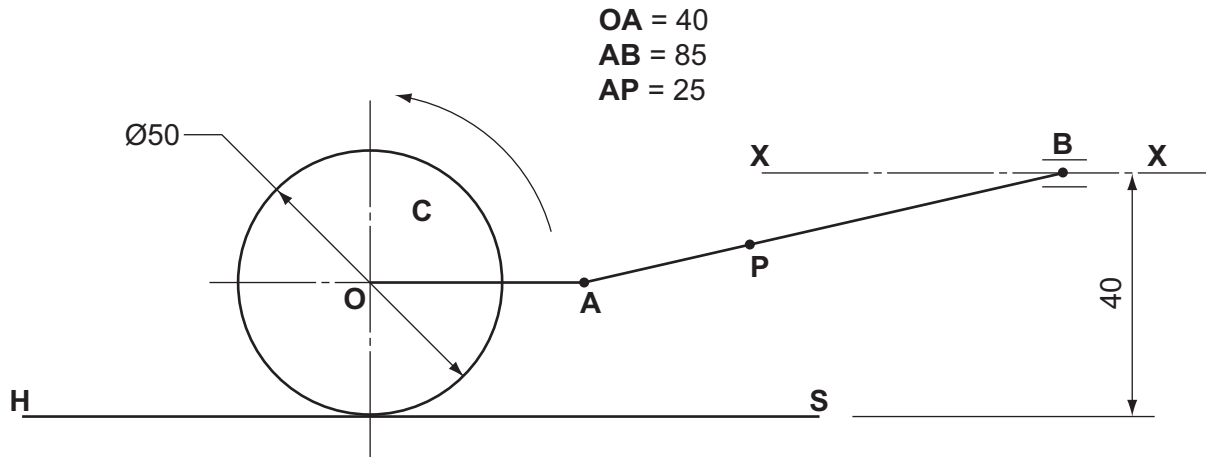

Fig. 1
- 1 Fig. 1 shows the outline of a mechanism in which a cylinder **C** rolls anti-clockwise in contact with a horizontal surface **HS**. Arm **OA** is rigidly attached to the cylinder. The connecting link **AB** is pin-jointed at **A** with **B** being constrained to slide along **XX**.